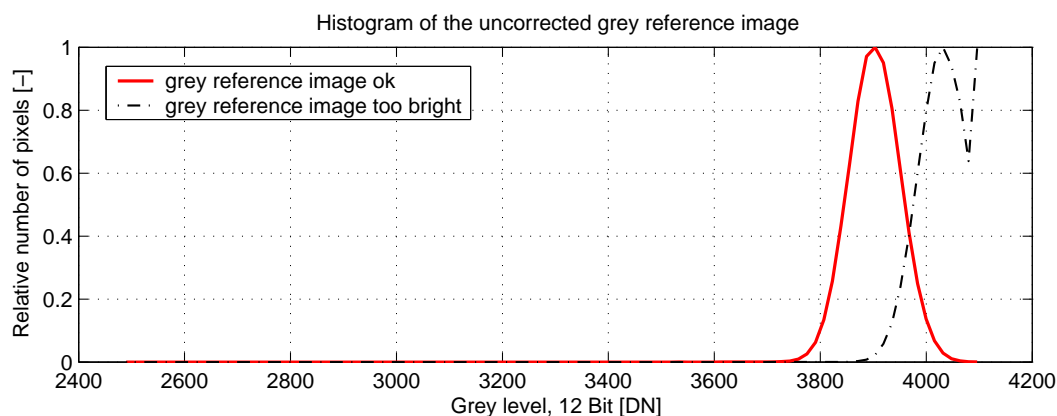

Figure 4.29: Proper grey reference image for gain correction
- When looking at the histogram of the grey reference image, ideally there are no grey levels at full scale (4095 DN @ 12 bit). All pixels that are saturated white will not be properly corrected (see Fig. 4.29).